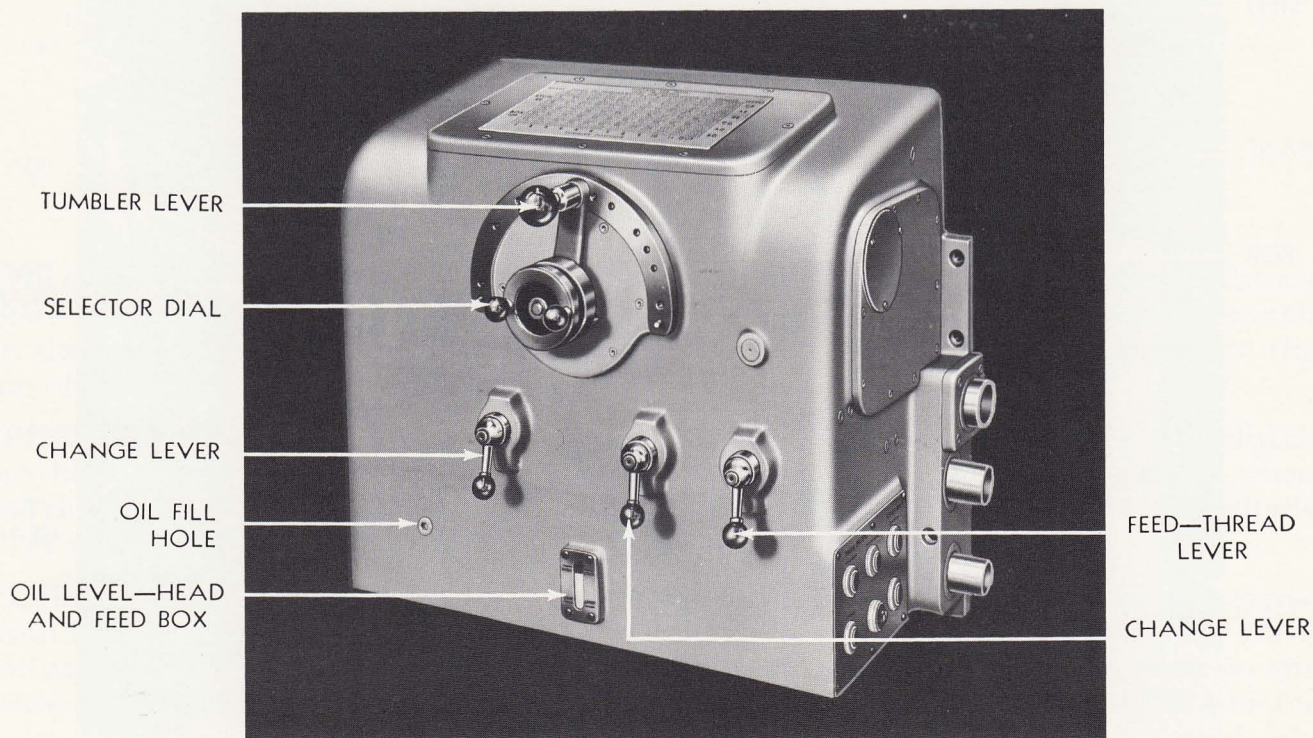

Figure No. 8—English Quick Change totally enclosed gear box
**FEED ROD AND LEADSCREW**—The feed rod and leadscrew are independent of one another and when one is running the other is stationary. To change the drive from one to the other merely position the small lever, Figure No. 8 on the right side of the gear box, to read "FEED" or "THREAD".